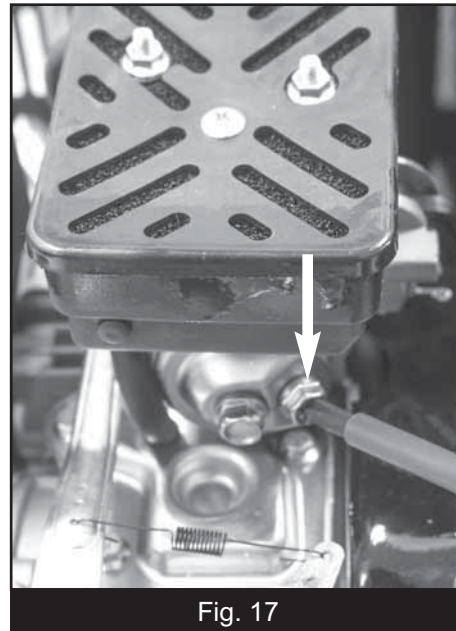

Fig. 17
2. Position an approved fuel container under the carburetor drain screw to catch fuel; loosen the screw. (Fig.17). Allow fuel to drain completely into container.